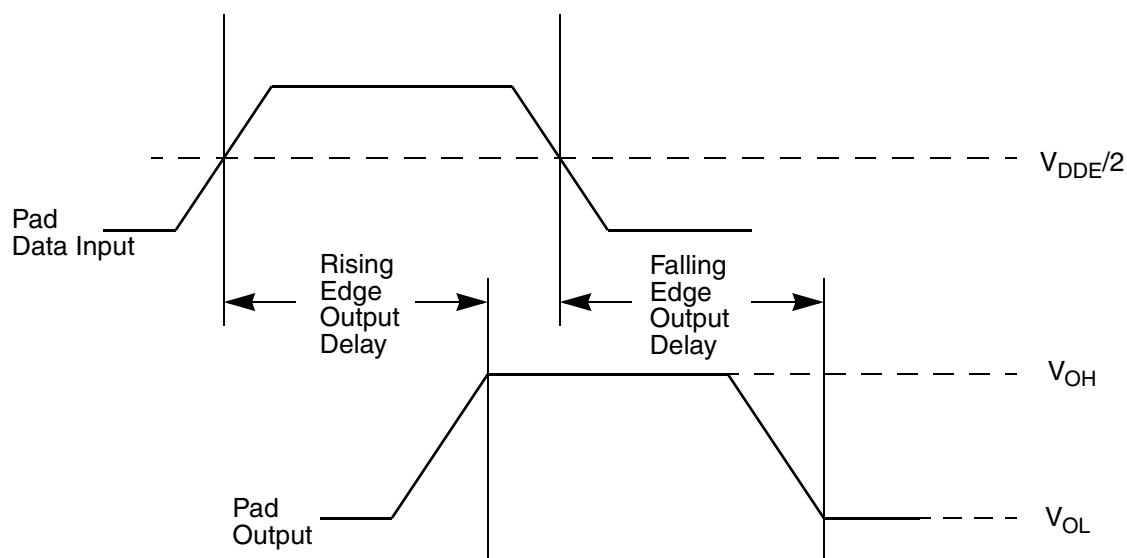

Figure 8. Pad output delay
- ⁸ Output delay is shown in Figure 8. Add a maximum of one system clock to the output delay for delay with respect to system clock.
⁷ Output delay is shown in Figure 8. Add a maximum of one system clock to the output delay for delay with respect to system clock.